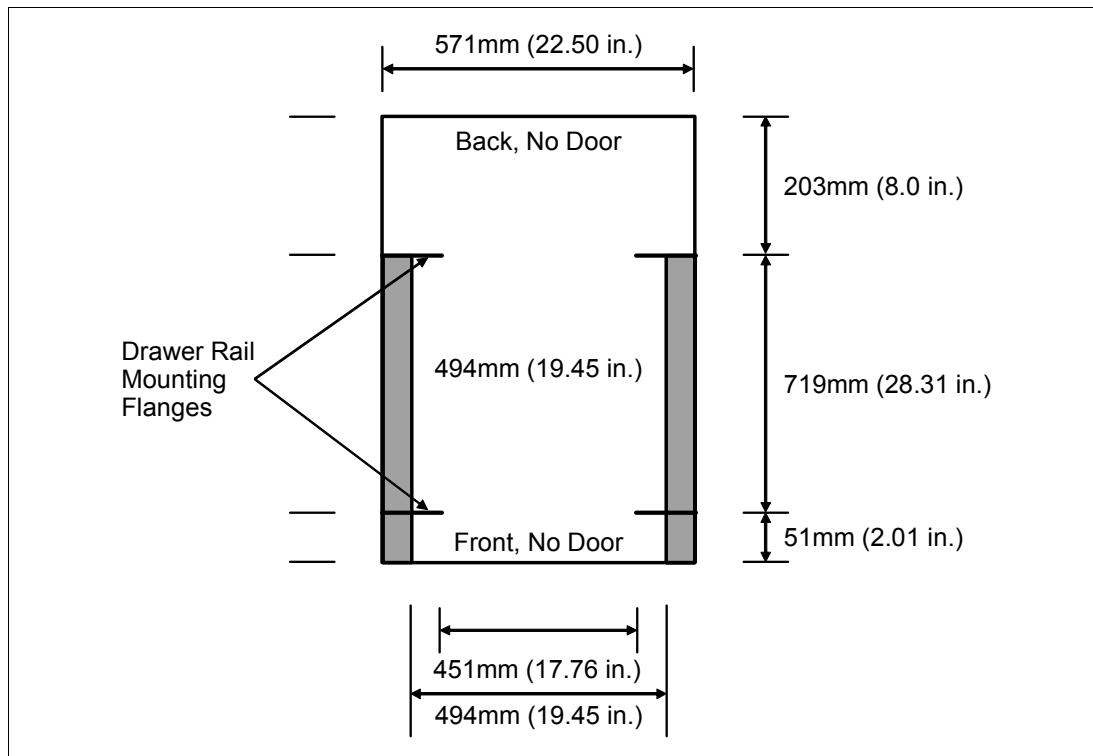

Figure 1-6 Top view of non-IBM rack specification dimensions
- The front rack opening must be 451 mm wide \pm 0.75 mm (17.75 in. \pm 0.03 in.), and the rail-mounting holes must be 465 mm \pm 0.8 mm (18.3 in. \pm 0.03 in.) apart on center (horizontal width between the vertical columns of holes on the two front-mounting flanges and on the two rear-mounting flanges). Figure 1-6 shows a top view showing the specification dimensions.